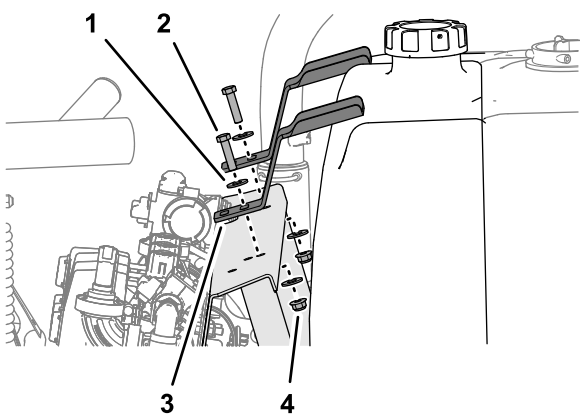

Figure 4
- Remove the 2 bolts, 4 washers, and 2 flange locknuts that secure the 2 hold-down brackets for the rinse tank to the valve mount, and remove the hold-down brackets (Figure 4).